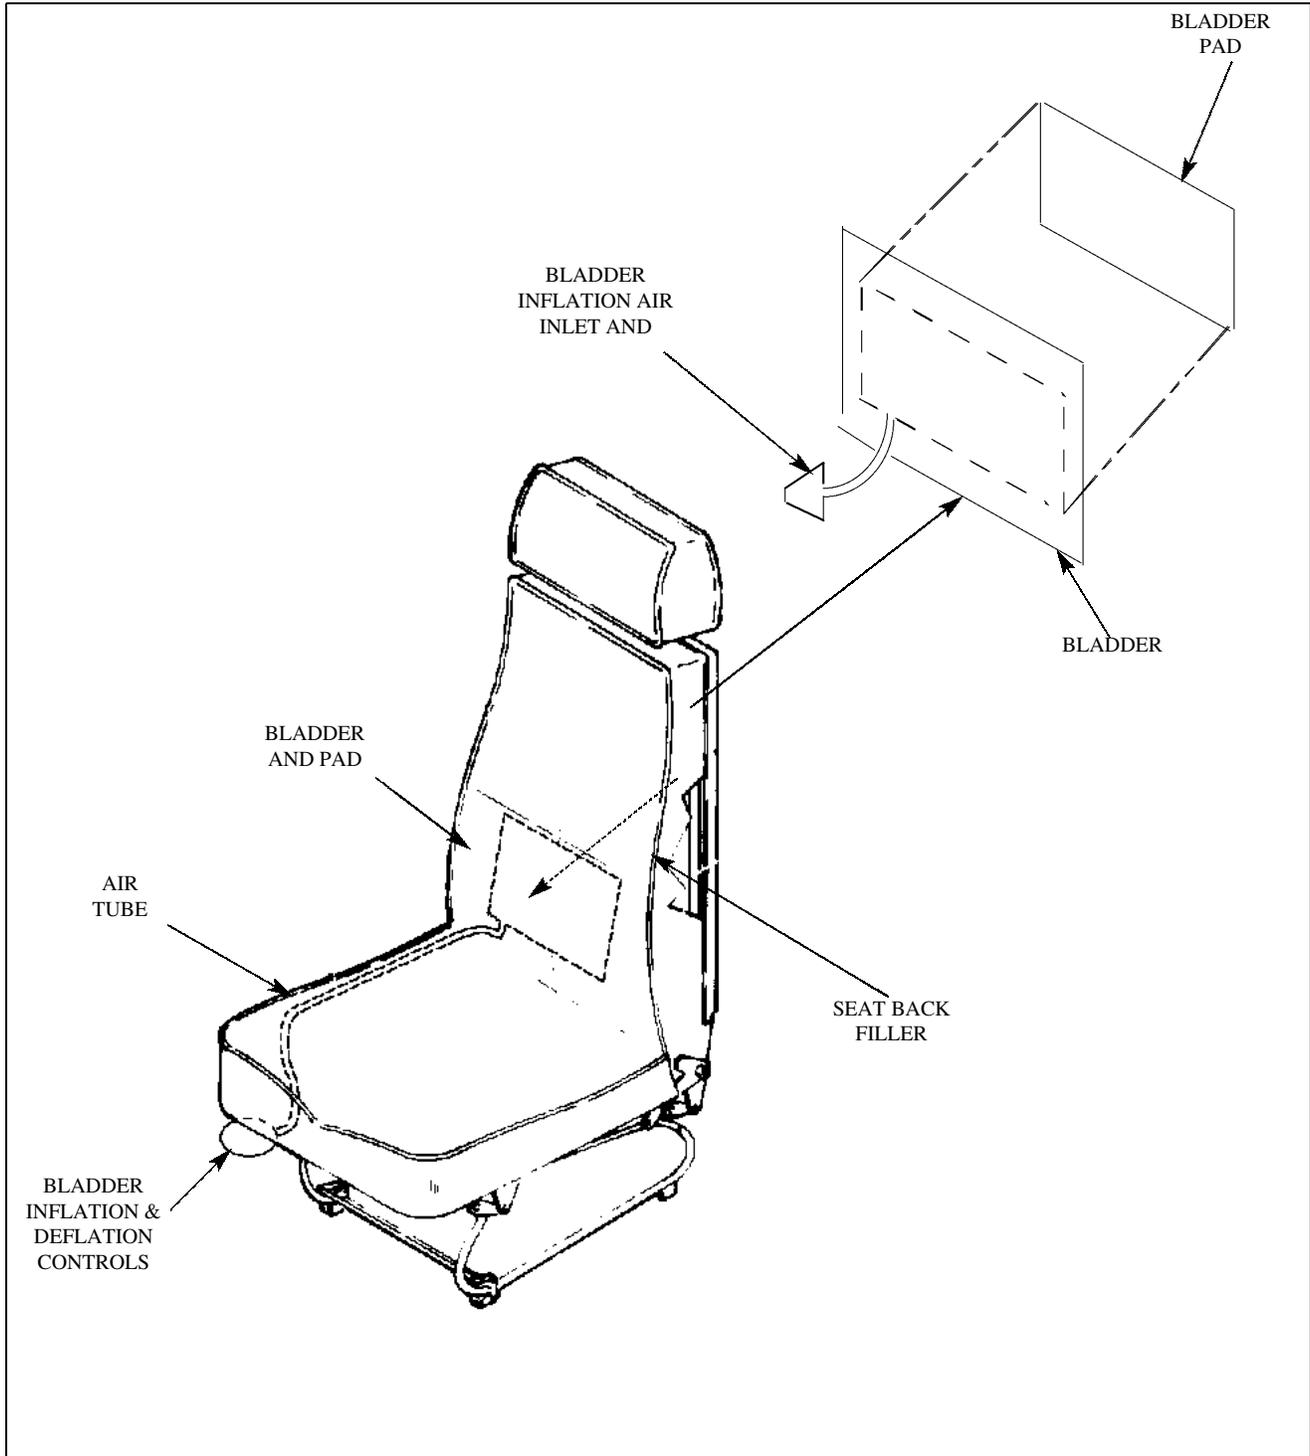

Figure 25-2. Lumbar Seat Bladder Installation
B. Lumbar Seats ( Refer to Figure 25-2 )